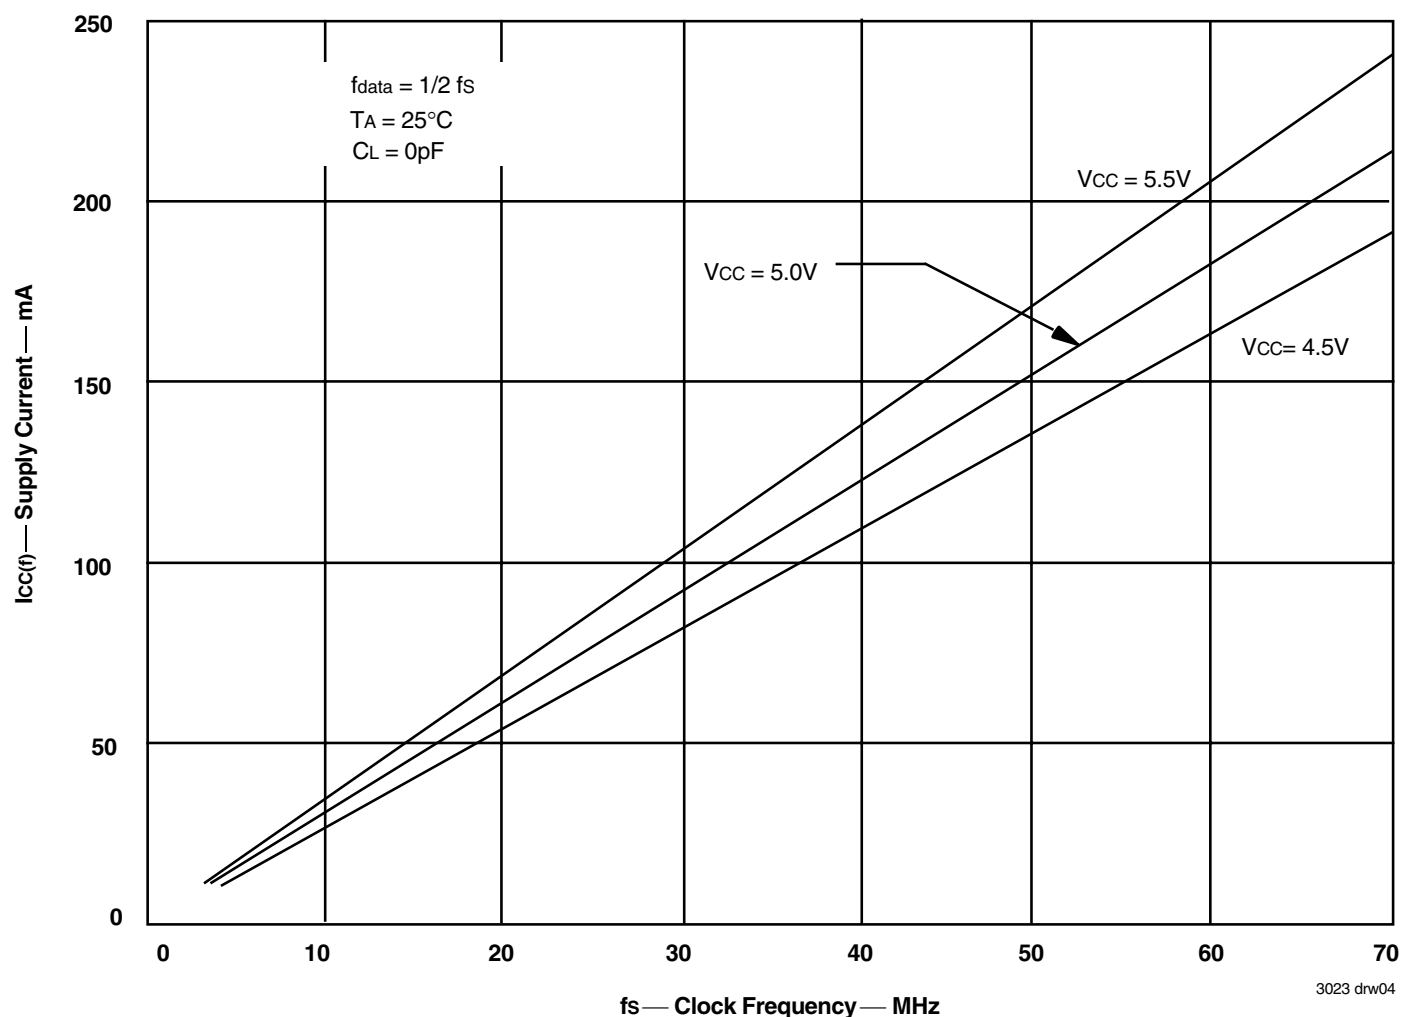

Figure 1. Typical Characteristics: Supply vs Clock Frequency
The $I_{cc}(f)$ current for the graph in Figure 1 was taken while simultaneously reading and writing the FIFO on the IDT723641 with CLKA and CLKB set to f_s . All data inputs and data outputs change state during each clock cycle to consume the highest supply current. Data outputs were disconnected to normalize the graph to a zero-capacitance load. Once the capacitance load per data-output channel and the number of IDT723631/723641/723651 inputs driven by TTL HIGH levels are known, the power dissipation can be calculated with the equation below.
With $I_{cc}(f)$ taken from Figure 1, the maximum power dissipation (PT) of these FIFOs may be calculated by: